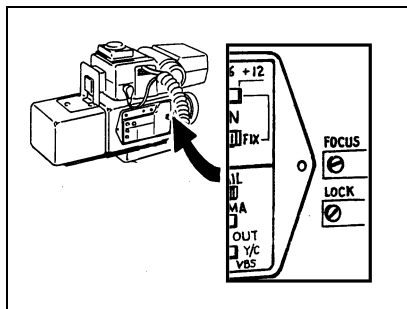

Figure 4-9. Camera Lock and Focus Screws
4. Loosen the Lock screw (Figure 4-9) to release the Focus screw.
5. Adjust the Focus screw (Figure 4-9) to obtain the sharpest focus.